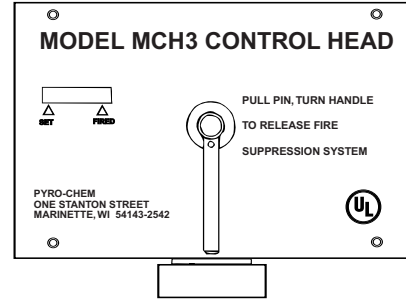

Figure 2-4. Mechanical Control Head.
- ▶ The Model MCH3 mechanical control head is a fully mechanical control head which can be connected to the PCL-240/350/550 cylinder valve. This control head will support a fusible link detection system, a remote mechanical pull station (Model RPS-M), and a mechanical or electric gas shutoff valve. A miniature electric switch (Model MS-SPDT, MS-DPDT, MS-3PDT, or MS-4PDT) can be ordered separately and field installed. It is equipped with a local manual control handle that allows for mechanical system actuation. Operation of the local manual control requires removing the pull pin and rotating the handle clockwise. The Model MCH3 control head can actuate a maximum of three (3) cylinders. See **Figure 2-4**.